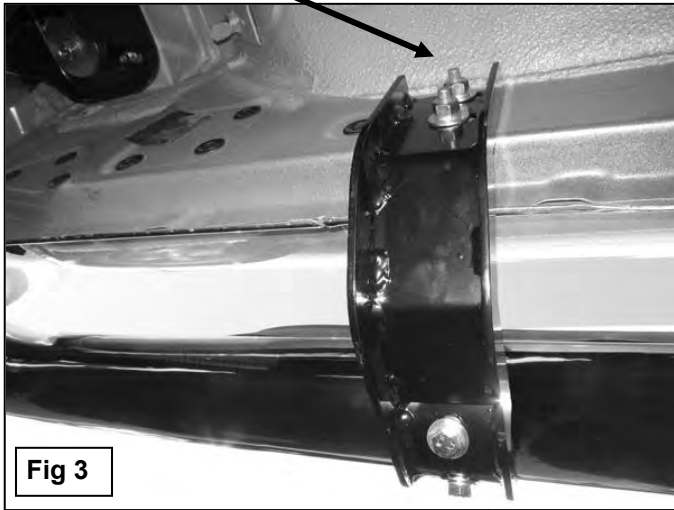

Fig 3
- Repeat **Step 3** for the driver side center and rear Mounting Bracket installation, **(Figure 3)**.
- Carefully place the driver Sidebar onto the (3) Mounting Brackets. Attach the Sidebar to the Brackets with the included (6) 8 x 25mm Combo Bolts. Do not tighten at this time.